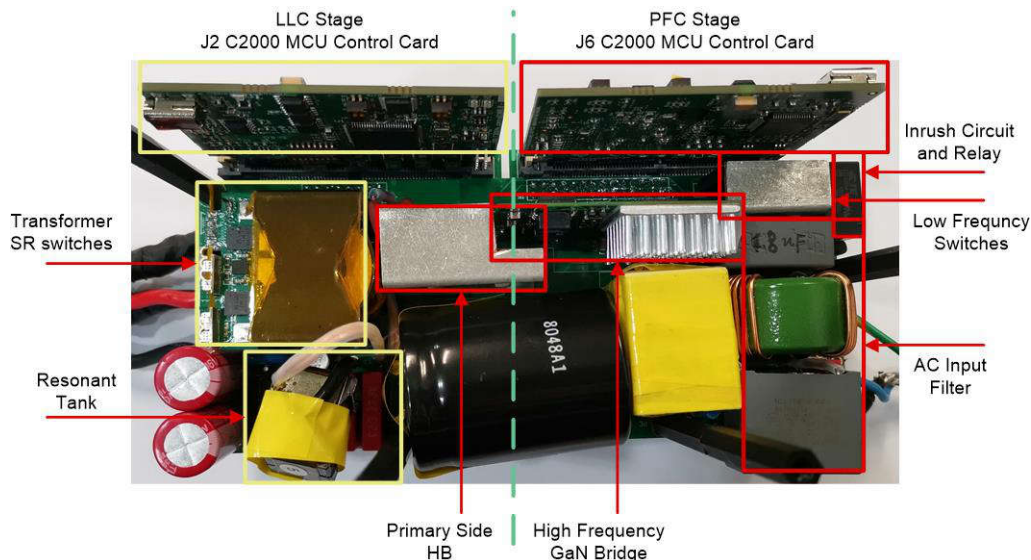

Figure 3-1. Board Overview
This section details the hardware and the different sections on the board. If only using the firmware of the design through powerSUITE, this section might not be valid. The key resources used for controlling the PFC stage on the MCU are listed in Table 3-1. The key resources used for controlling the LLC stage on the MCU are listed in Table 3-2. Figure 3-1 shows the key power stage and connectors on the design board.
6. Current and voltage probes can be connected to observe the input current, input voltage, and output voltages, as shown in Figure 3-1.
7. Current and voltage probes can be connected to observe the resonant current, switching node voltage, SR drive signal and output voltages, as Figure 3-1 shows.